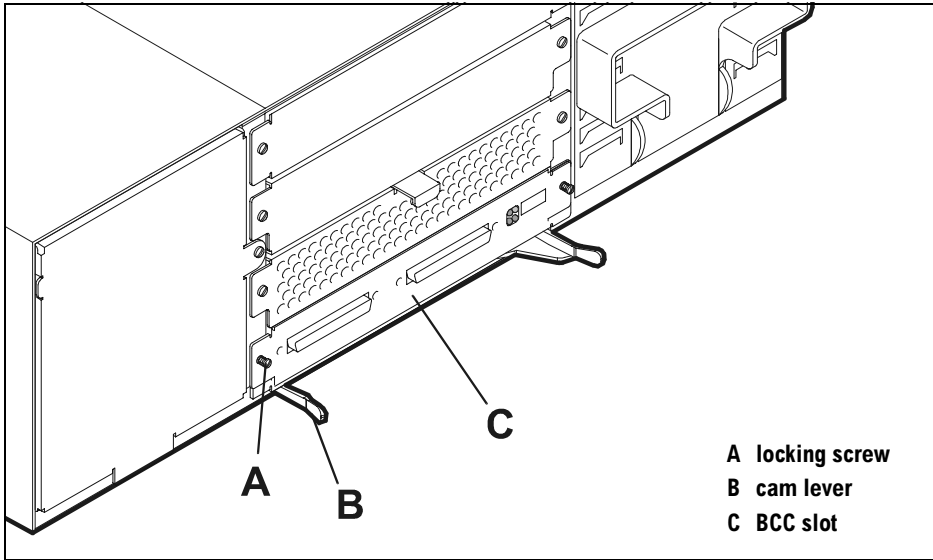

Figure 52 Bus Control Card Removal
3. Loosen the two locking screws (A in Figure 52) until they clear the disk system chassis. The screws stay in the card.